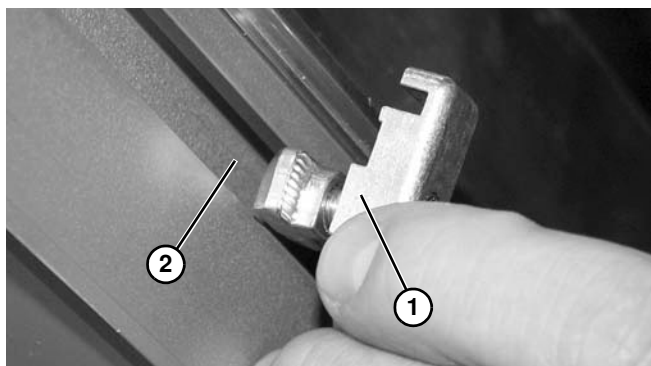

Figure 27
1. Install guide clip assembly (**Figure 27, item 1**) into conveyor t-slot (**Figure 27, item 2**) as shown.